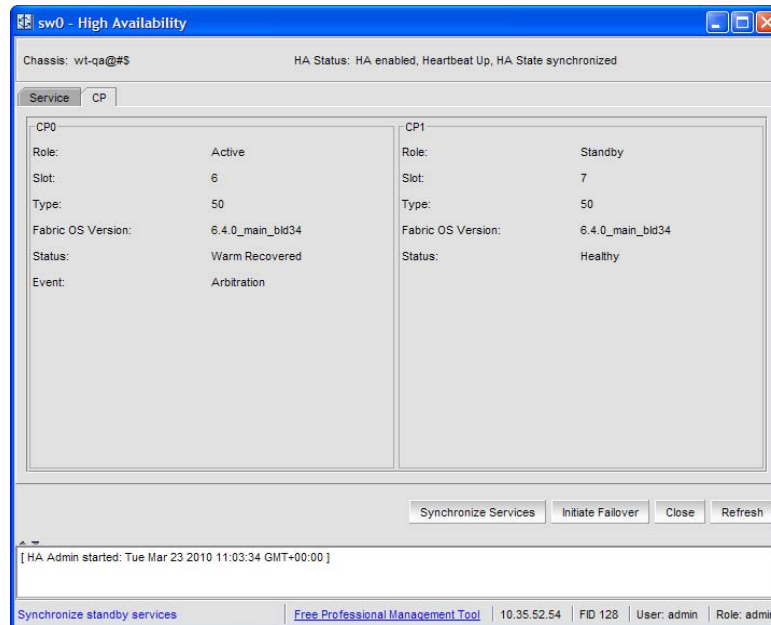

FIGURE 10 High Availability window, CP tab
The High Availability window, as shown in Figure 10, displays information about the status of the HA feature on each control processor (CP), and enables you to perform CP failover.